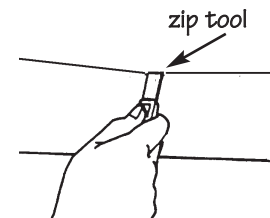

Figure 74.
- Use the unlocking tool again to zip the upper panel over the lock on the new panel (Fig. 74).